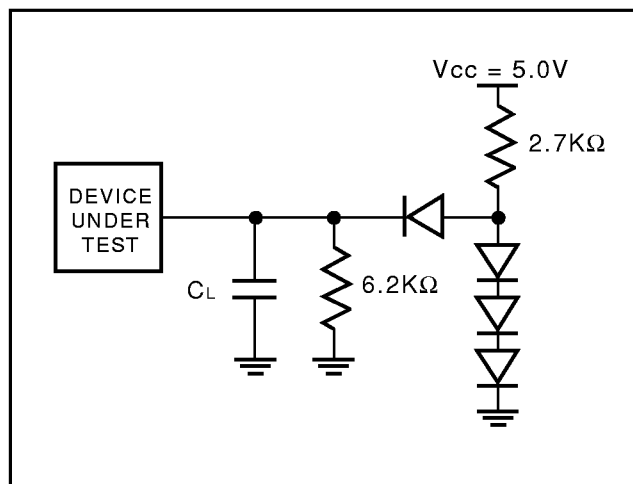

Figure 12. Test Setup
- See Figure 12 and Table 6 for test specifications.